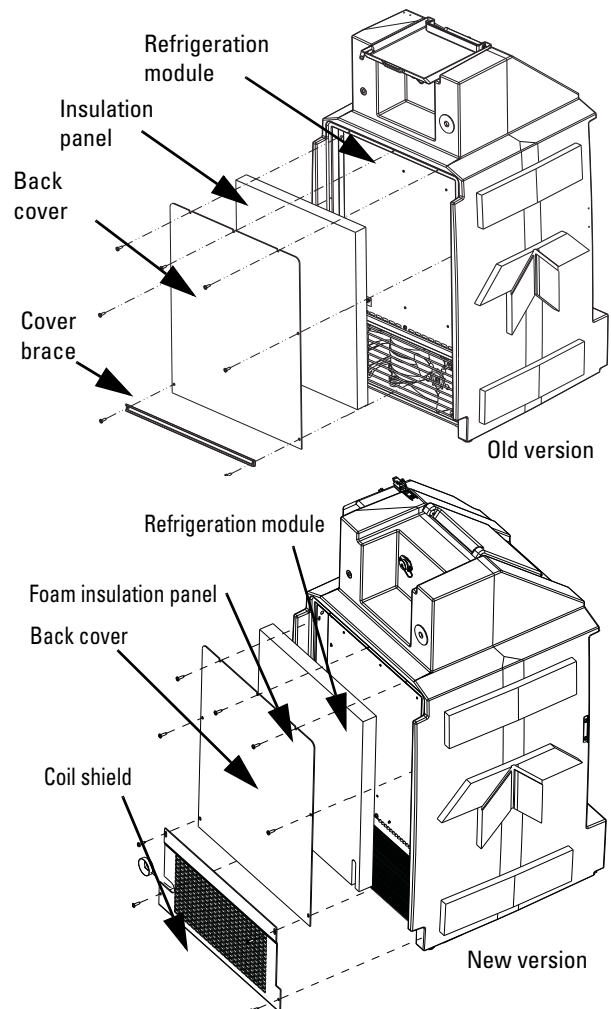

Figure 1: Remove back cover and insulation
2. Remove the parts according to the version of refrigerator you have (Figure 1).